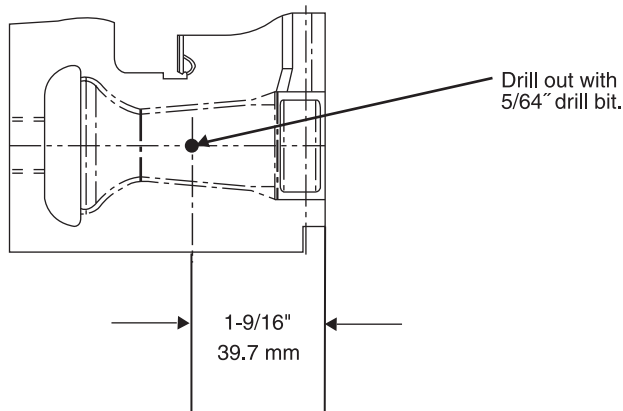

Fig. 42 - Mixer Screw Location
1. Locate the dimple on the top of each burner venturi tube. If you cannot locate the dimple, refer to Fig. 42 for location of the mixer screw.